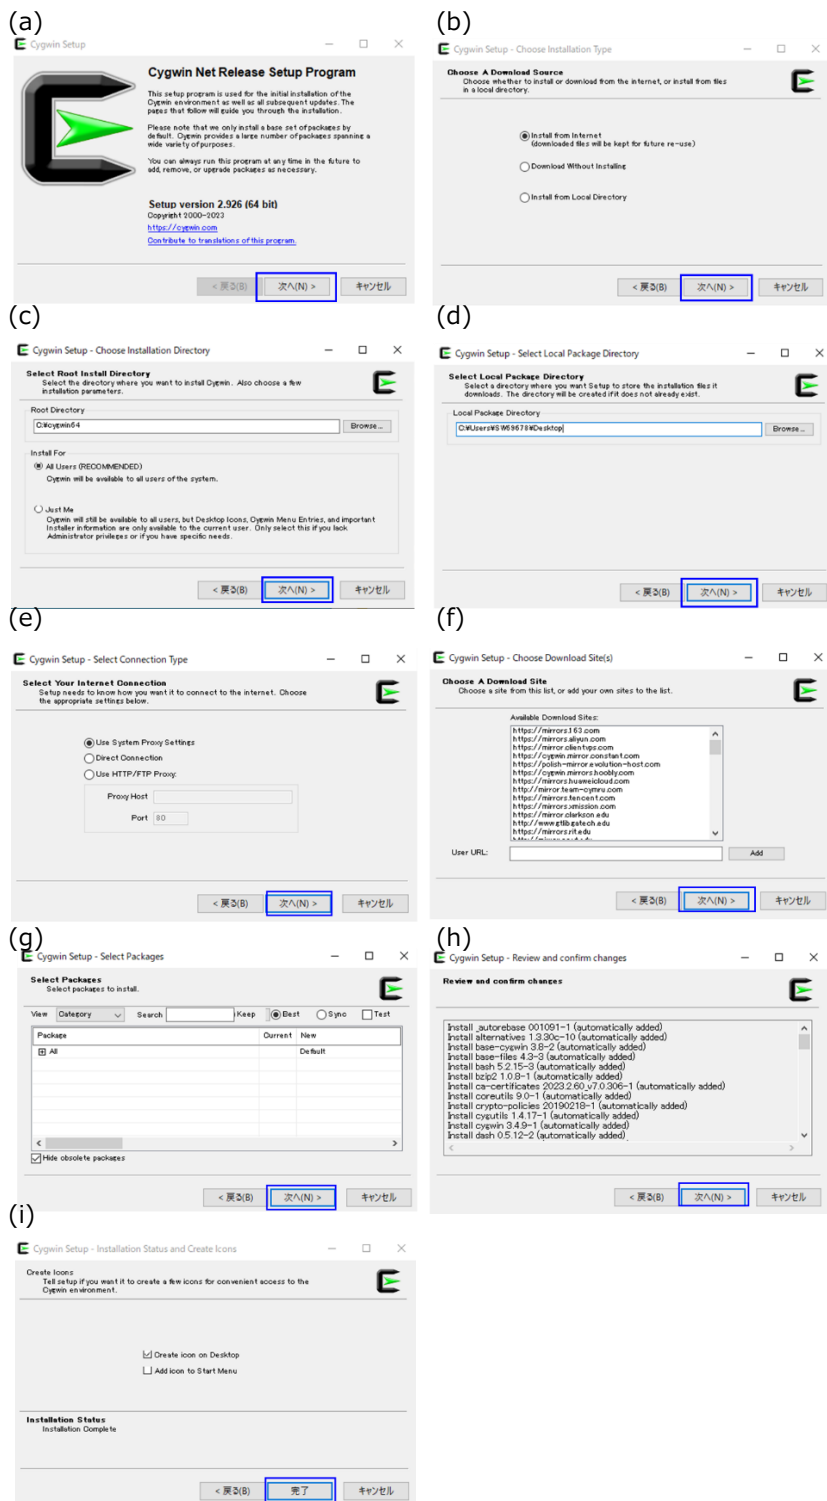

Fig. 3.3 Installation procedure of Cygwin
3. Follow the steps shown in Fig. 3.3 (a) - (i) to install the software.